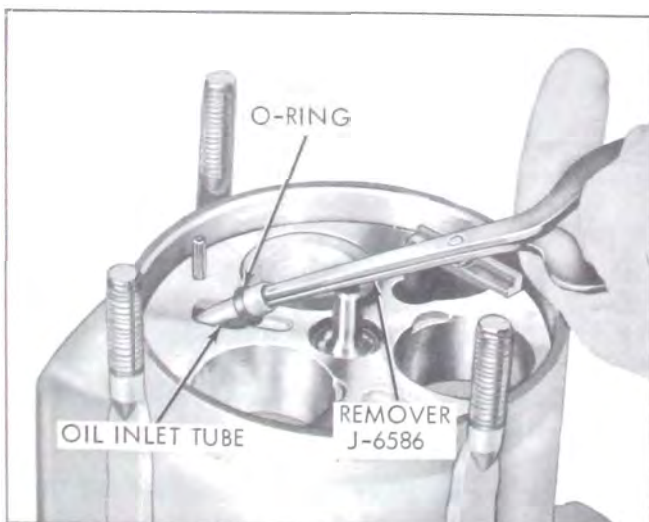

Figure 11-58—Removing Oil Inlet Tube
1. Remove oil inlet tube, using J-6586 Remover. See Figure 11-58. If tube O-ring did not come out with tube, remove it from cylinder with small wire.